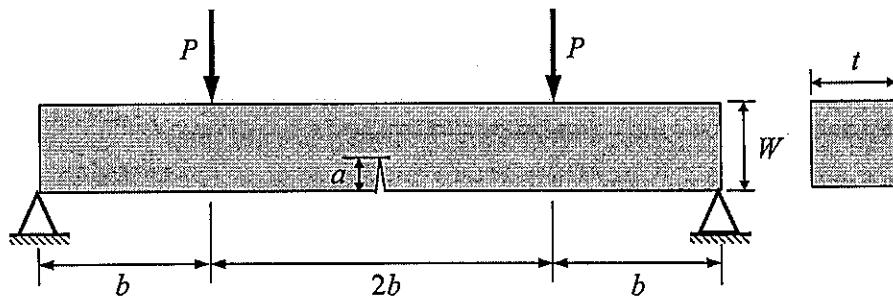

Figure 4
- (b) A beam of width $W = 50$ mm and thickness $t = 50$ mm is subjected to 4-point bending as shown in Figure 4 where $b = 100$ mm. At the mid-section of the beam, there is a through edge crack of depth $a = 5$ mm on the bottom surface. The fracture toughness of the material is $K_{Ic} = 50 \text{ MNm}^{-3/2}$. Assume linear elastic fracture mechanics holds.
- (ii) If the load P in Figure 4 fluctuates sinusoidally between 0 and 60 kN once every day, determine how many years it will take for the crack to grow in length by 20%. Assume the geometry correction factor (Y) to remain constant at the value you calculated in part (i). Use Paris law $da/dN = C(\Delta K)^m$ for this calculation where da/dN is in m/cycle and ΔK is in $\text{MNm}^{-3/2}$, $m = 3.5$ and $C = 0.25 \times 10^{-11}$. (7 marks)